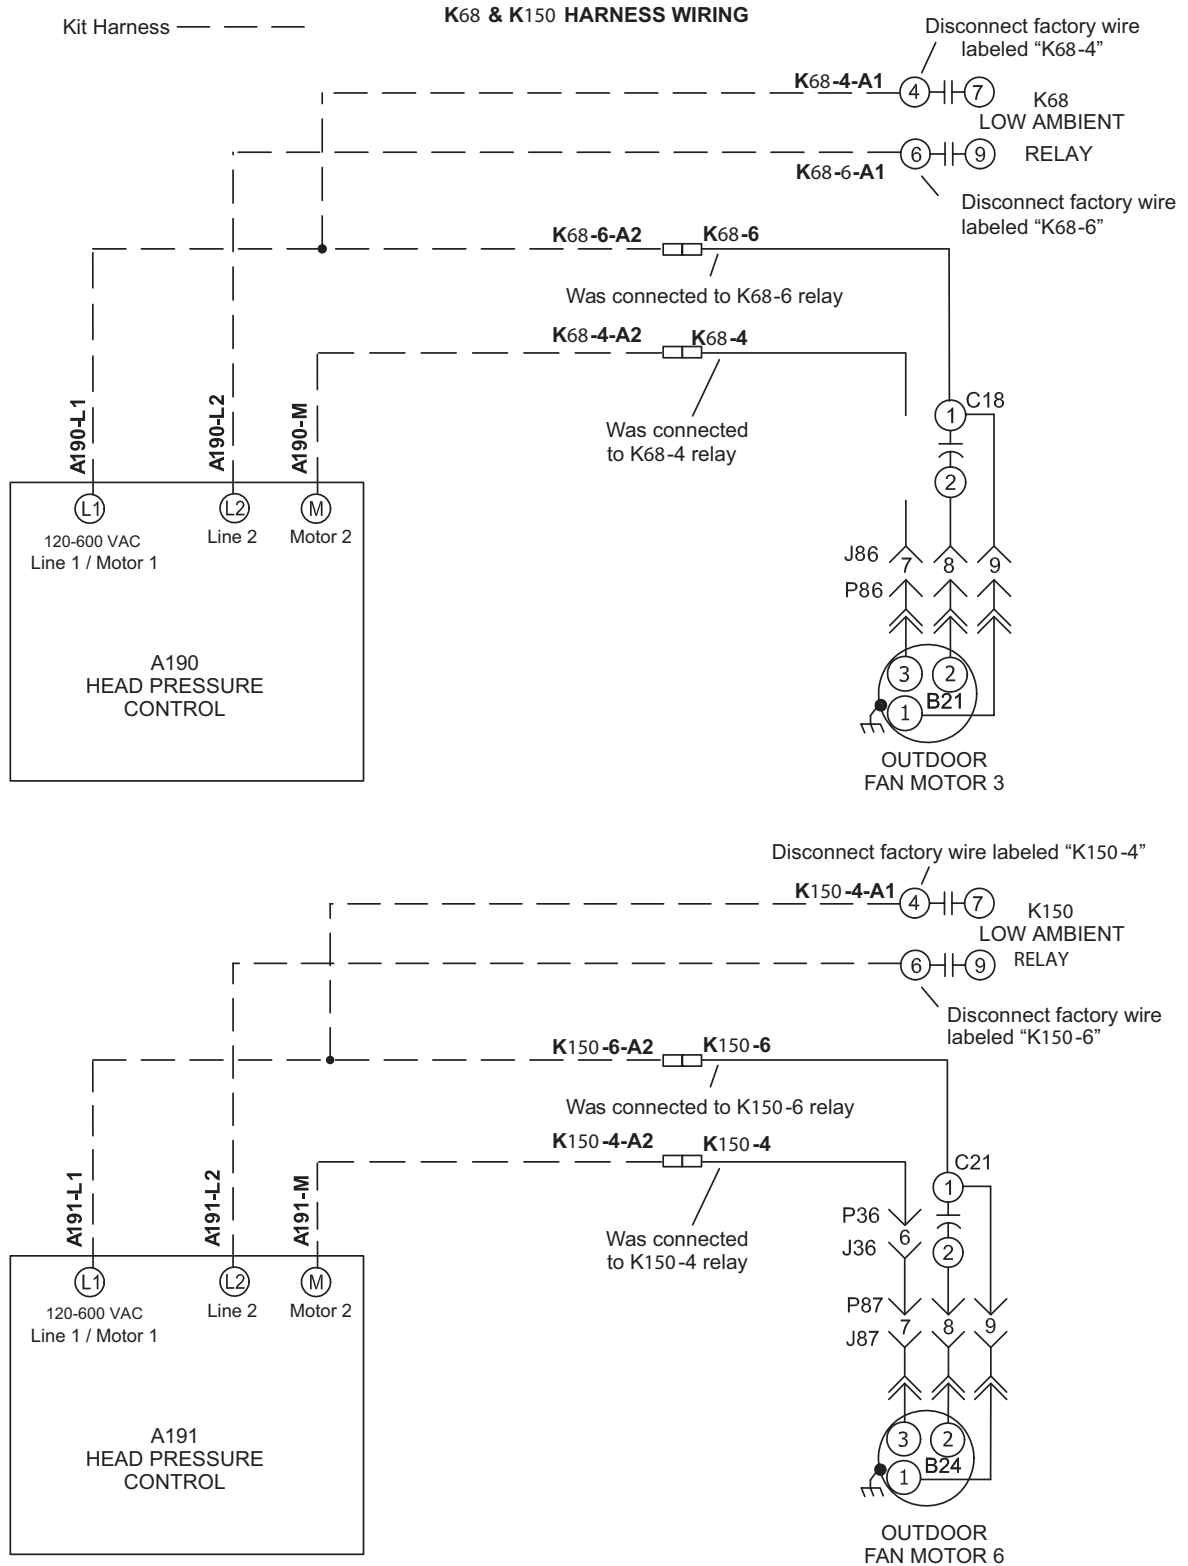
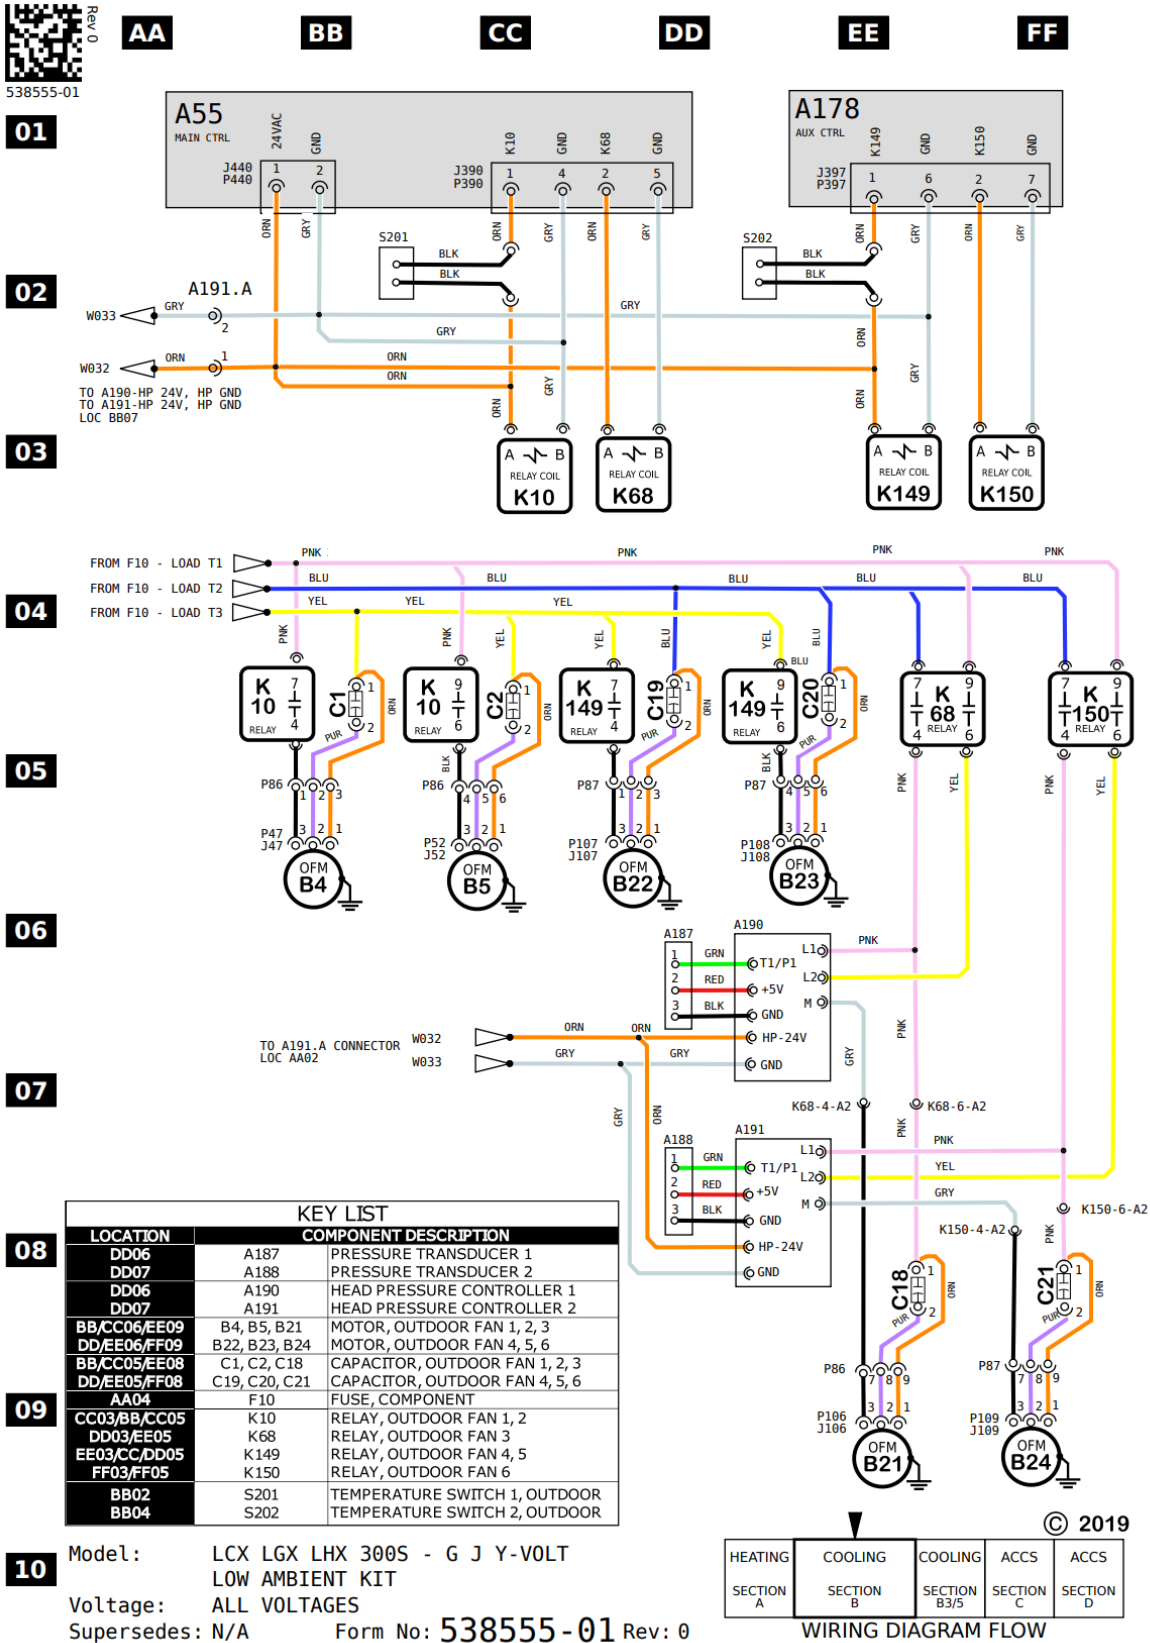

FIGURE 13
FIGURE 14
- 2 - Connect wires labeled "A190-M" & "A191-M" to the terminal marked "Motor 2" on ICM controllers A190 & A191 as shown in FIGURE 13.
- 3 - Connect wires labeled "A190-L2" & "A191-L2" to the terminal marked "Line 2" on ICM controllers A190 & A191 as shown in FIGURE 13.
- 4 - Disconnect factory wires to K68 terminals 3 & 5. Reconnect these wires to the kit harness as shown in FIGURE 13.
- 5 - Disconnect factory wires to K150 terminals 3 & 5. Reconnect these wires to the kit harness as shown in FIGURE 13.
- 6 - Make the rest of the K68 and K150 harness connections as shown in FIGURE 13. Refer to the diagram in FIGURE 14.